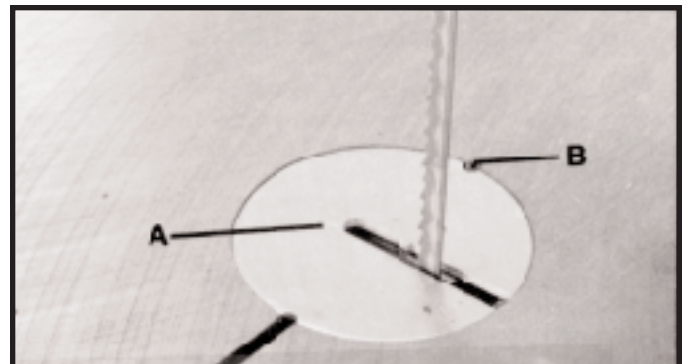

Fig. 36
Place table insert (A) Fig. 36, into the hole provided in the table surface, making certain the pin (B) in the table engages one of the indents in the table insert.